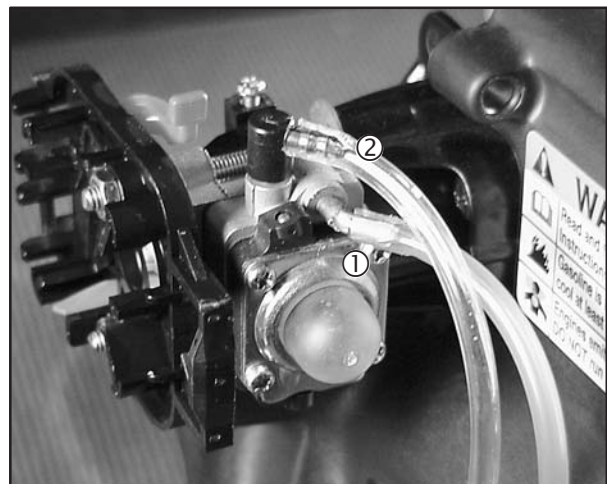

Fig. 26
3. Install fuel supply line (1) and fuel return line (2), Fig. 26.